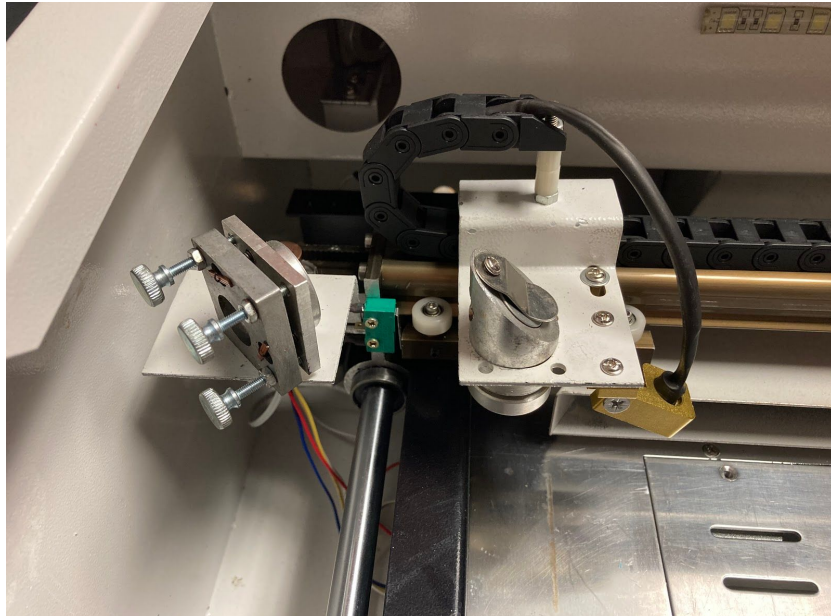

Fig. 4-2 - The Second Mirror in Position A
- Move the X-axis beam to Position A (Fig. 4-2) near the laser tube.